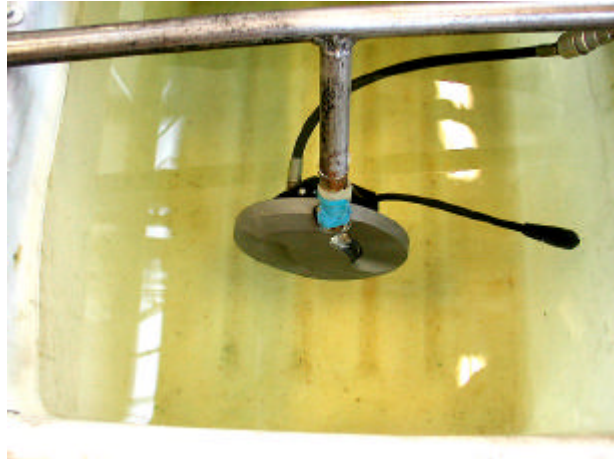

Fig. 9. Air Pressure Test. ZA280 fitting immersed in clean water to detect any leak paths. No bubbles so no leaks.
- Apply an air pressure of 350 mbar (approx 5 p.s.i.) to the fitting and immerse in a tank of clean water. Check for the emission of air bubbles from the bottom cover, prism seals, and the cable gland. See **Fig. 9**.